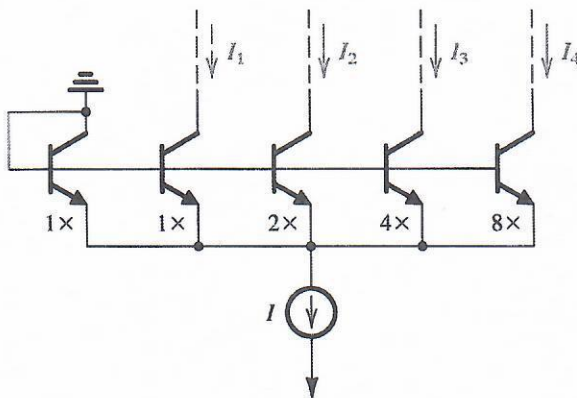

Fig. P10.63
- 10.63 The BJTs in the circuit of Fig. P10.63 have their base-emitter junction areas scaled in the ratios indicated. Find I_1 to I_4 in terms of I .
Fig. P10.63 (in place of the current source I), thus producing currents for 4 more bits. In this way an 8-bit DAC can be implemented with a maximum spread in areas of 8. What is the total area of emitters needed in terms of the smallest device? Contrast this with the usual 8-bit circuit. Give the complete circuit of the converter thus realized.